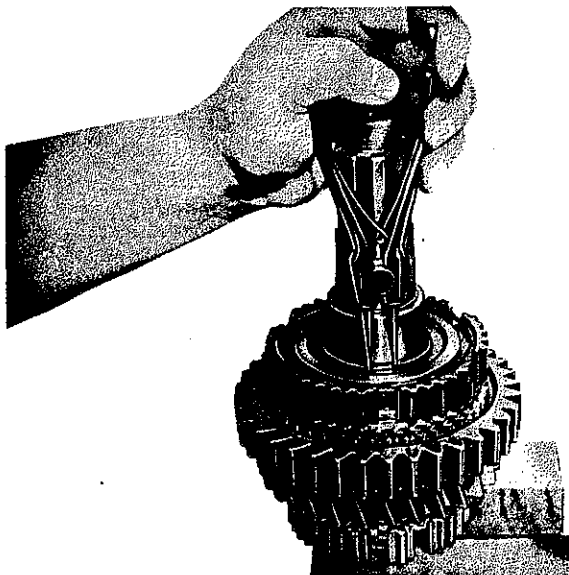

Fig. 18
5. Remove circlip (415) (Fig. 18). Remove 1st gear wheel (420) with synchronizer (424) under a press. Remove needle cage (418). Turn main shaft by 180° and remove second gear wheel (417) with synchronizer (416) on press.